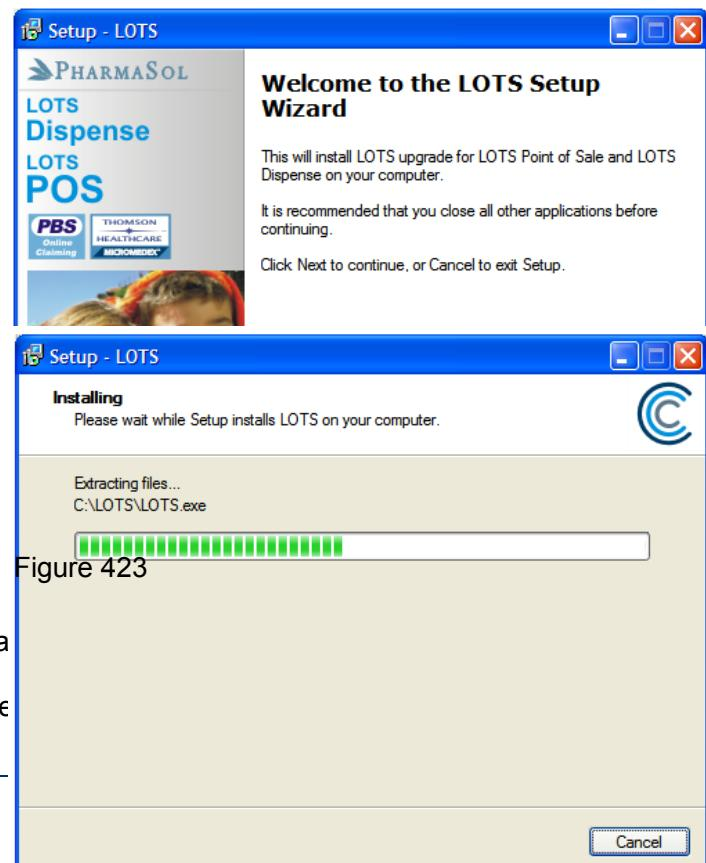

Figure 423
- After selecting 'Yes', a warning will appear asking you to ensure you are out of LOTS on all machines (see Figure 423).